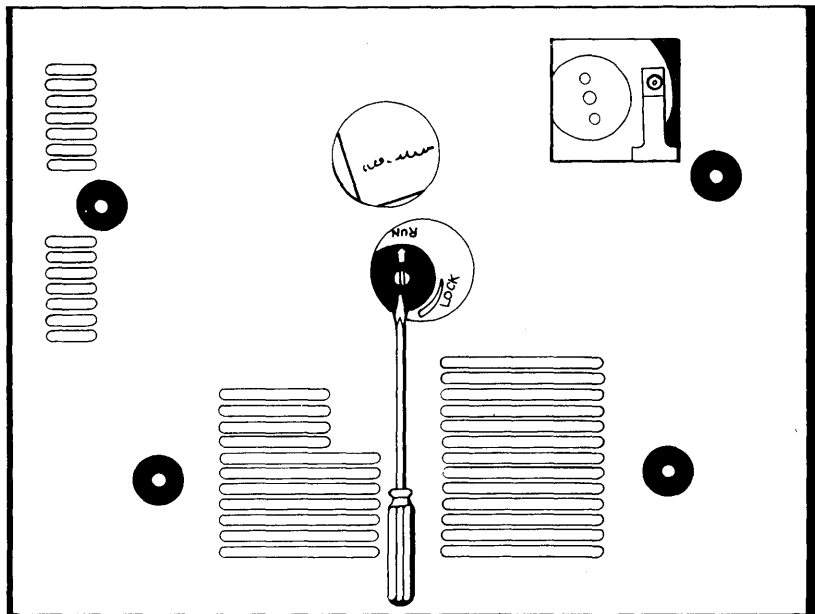

Figure 2-7 Arrow in the RUN position
8. With a flat-head screwdriver, move the arrow to the RUN position (Figure 2-7).